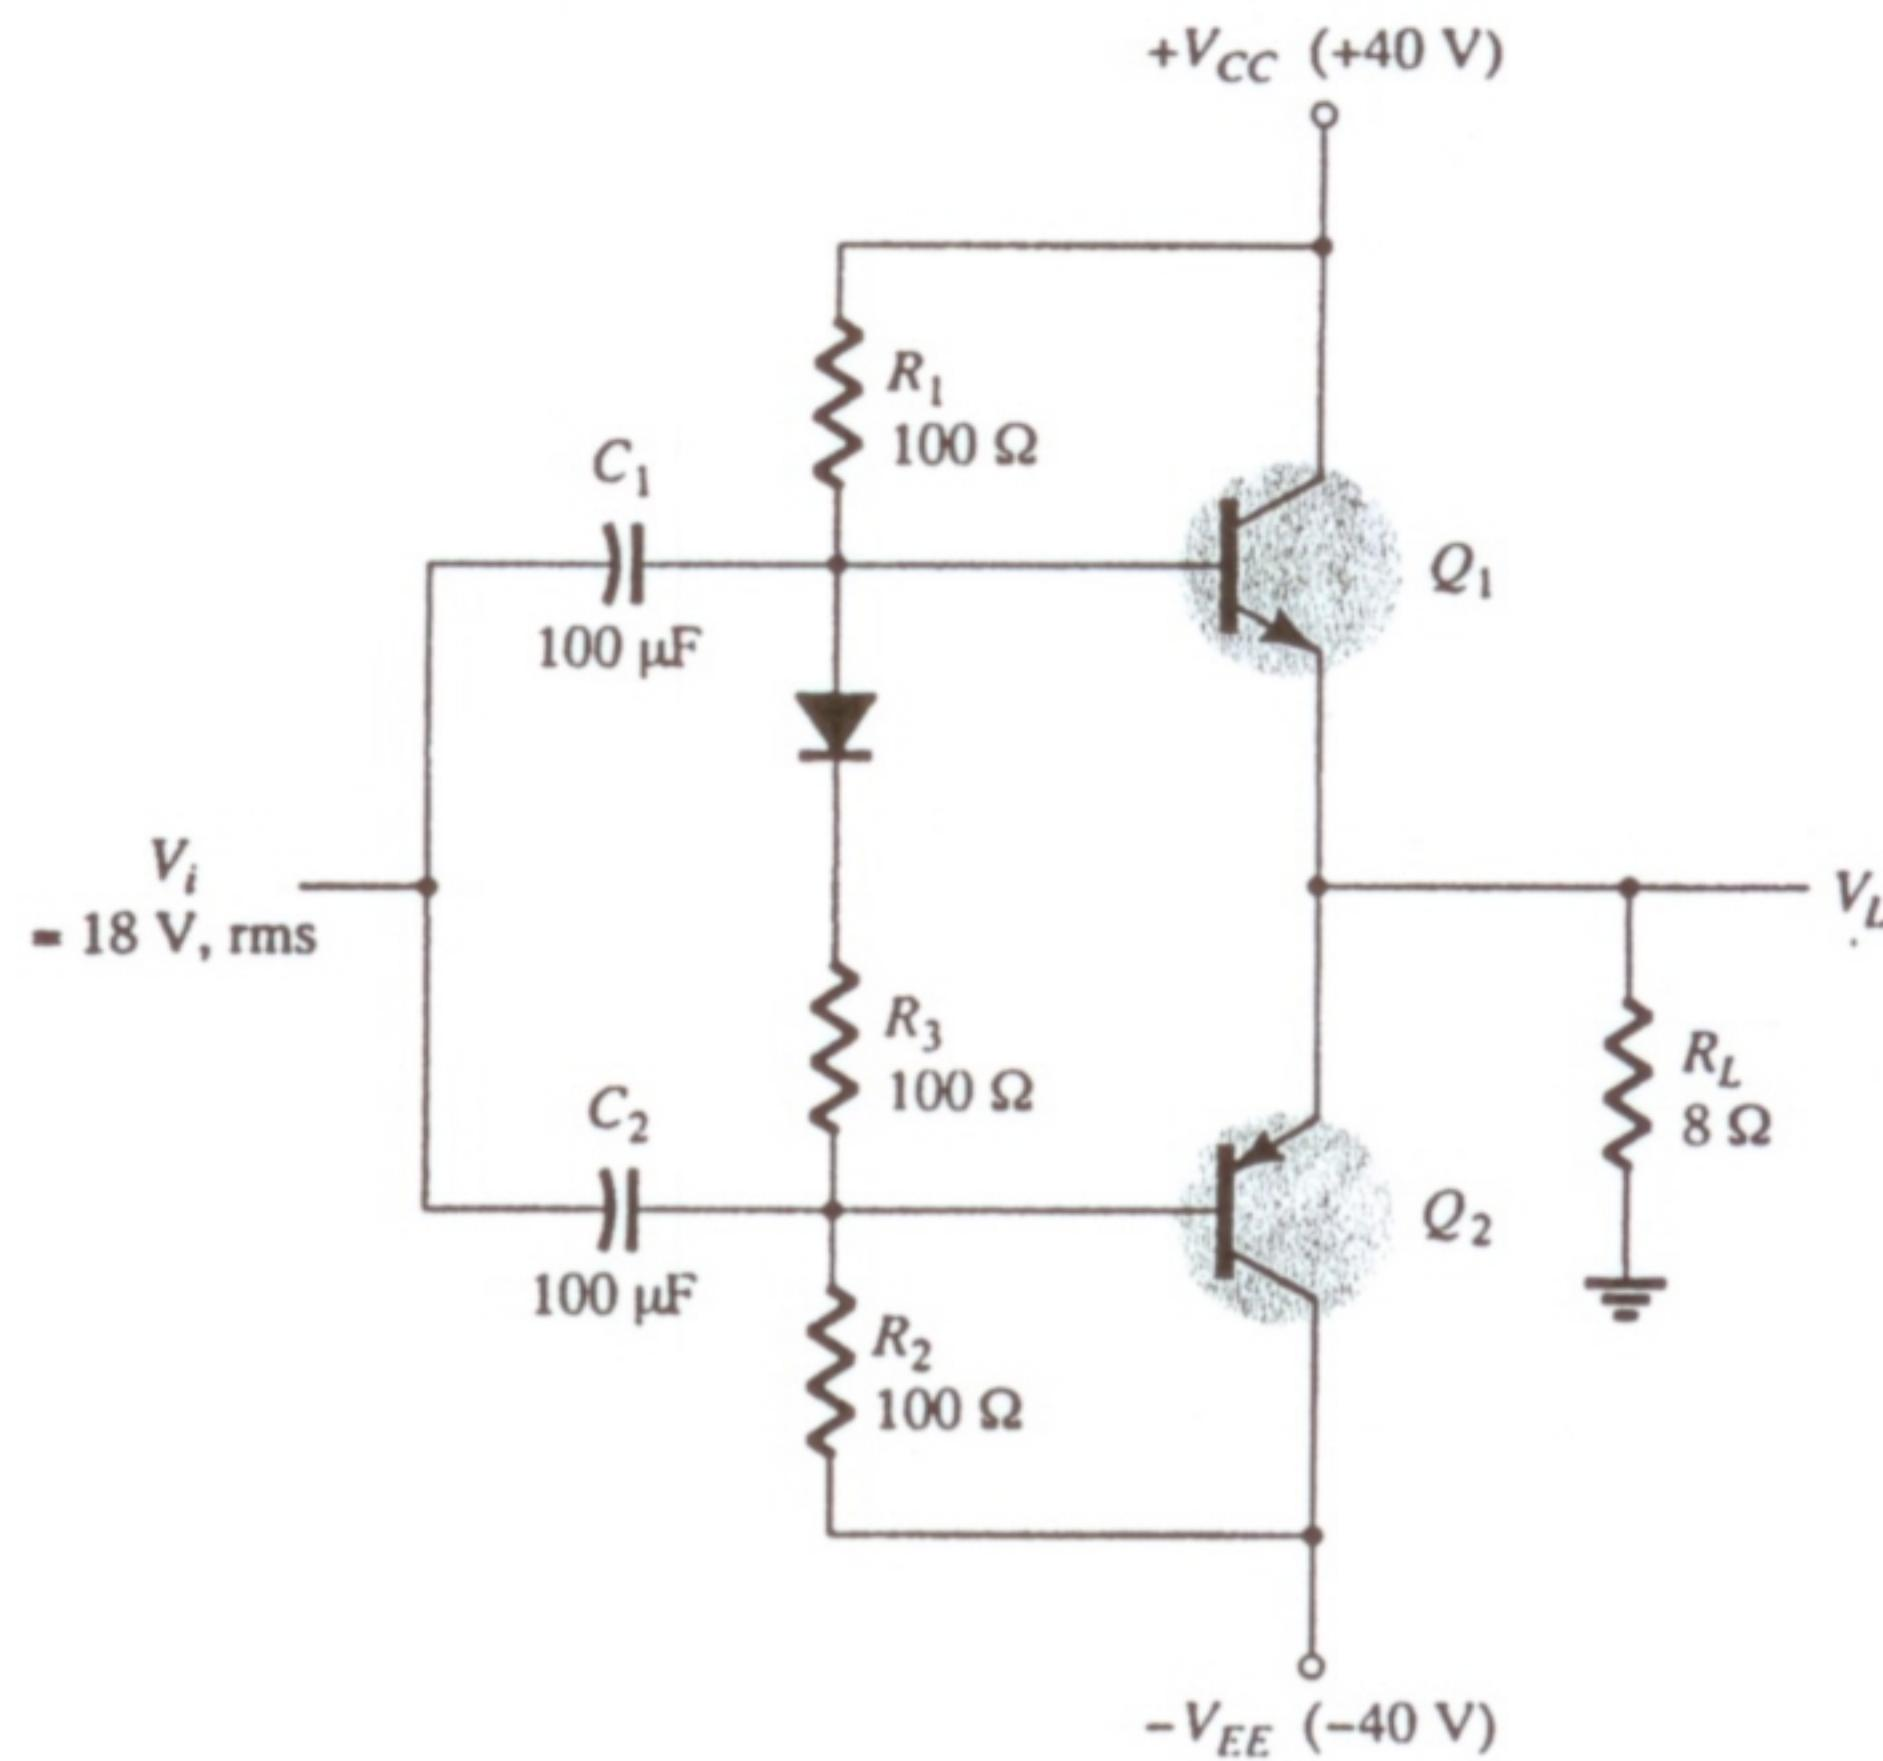

FIG. 12.37
*18. For the power amplifier of Fig. 12.37, calculate: